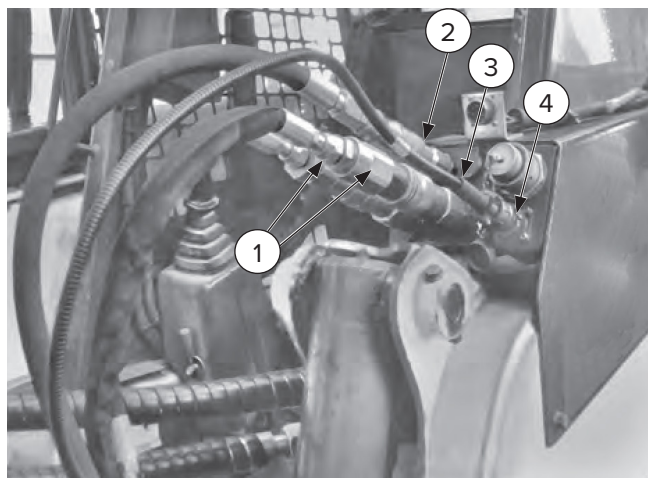

Figure 4
2. Connect the case drain [Figure 4, Item 2] first, and then connect the supply and return lines [Item 1]. (See “4.5 Connecting Quick Couplers” on page 16.)